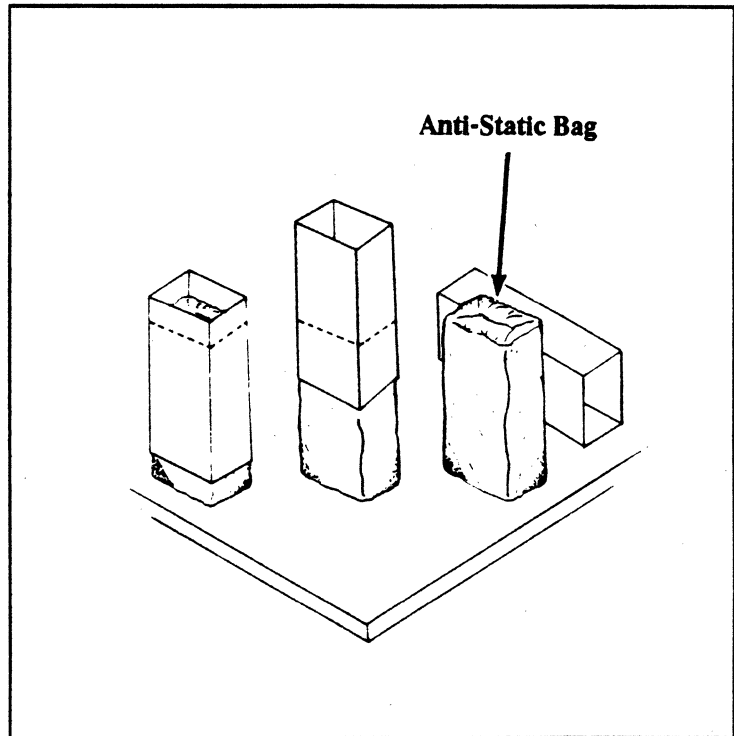

Figure 2D
- (f) **CAREFULLY** stand the disk drive box on end. Steadily slide the drive box off the drive--do not jar or bounce the disk drive against the bench. See **Figure 2D**.